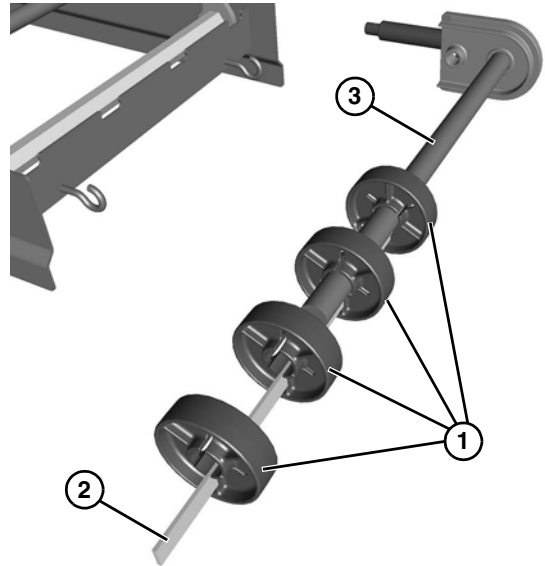

Figure 70
1. Place the pucks (Figure 70, item 1) onto the alignment bar (Figure 70, item 2), and install onto the idler shaft (Figure 70, item 3).
2. Slide all the idler pucks (Figure 70, item 1) along with alignment bar onto idler shaft (Figure 70, item 3).